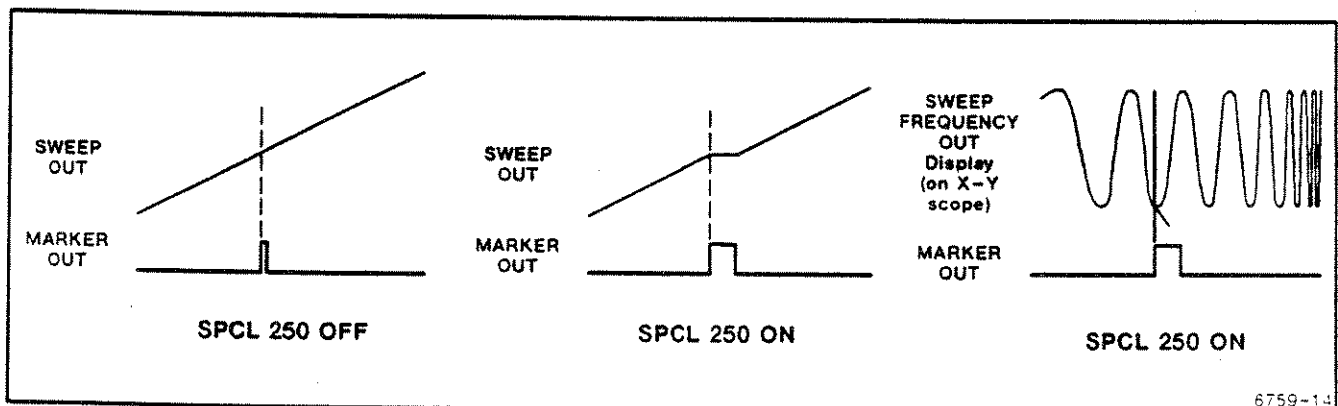

Fig. 2-6. SPCL 250 example.
- 250 Toggles the sweep marker function. With this function on, a horizontal line is inserted in the main output signal at the MARKER frequency and a pulse is output at the MARKER OUT connector; marker width is set by RATE. With SPCL 250 displayed, press either INCREMENT key to toggle the status. Power-on setting: off. Refer to Fig. 2-6.
- 310 Turns on or off auto-increment for ADRS function. To turn the auto-increment on or off, press PROG and press DATA key 1 or 2 (to select memory bank to receive arbitrary waveform data), and press ENTER. Press SPCL and select function 310. The window displays ARB AUTO INCR; press ENTER. Display shows AUTO INCR. ON or OFF; press either INCREMENT key to change status. Power-on setting: on.
- 320 Selects one of 5 predefined arbitrary waveform functions. The predefined function (1000 points in length) is copied into arbitrary waveform memory bank, beginning at the last address entered. Key sequence: PROG, key 1 or 2 to select arbitrary waveform memory bank 1 or 2, ENTER; select START address; press SPCL, keys 320, ENTER; the window shows FUNC SELECT followed by SIN, SQR, TRN, RUP, or RDN; press one of the INCREMENT keys to change the displayed selection to the desired function, press ENTER, PROG. To output the waveform, press ARB.